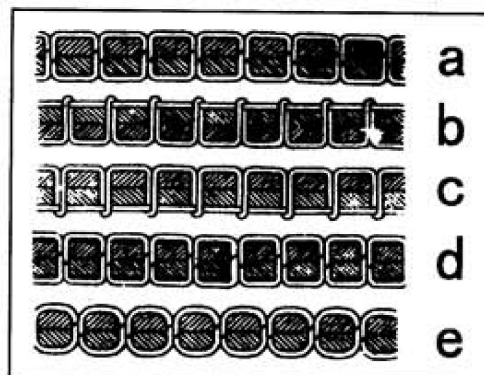
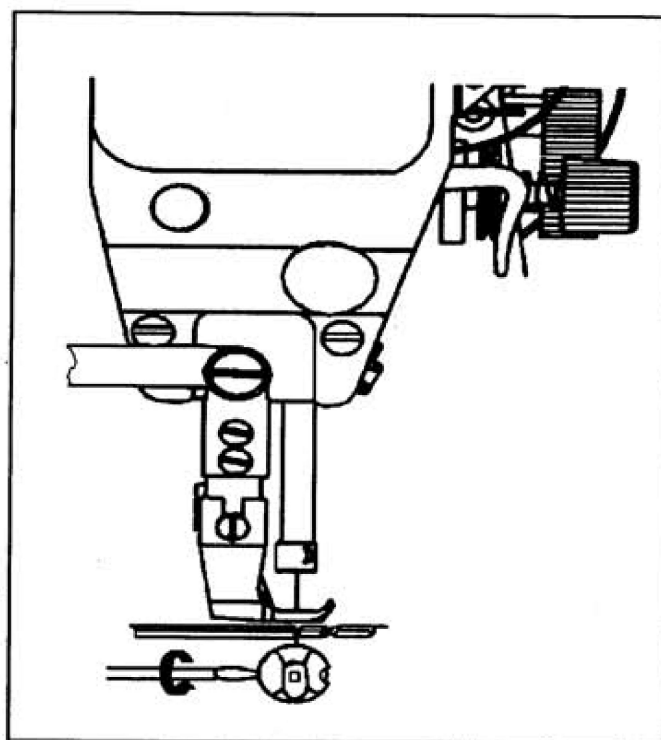

Fig. 15
Fig. 16
15. ADJUST THREAD GUIDE AND THREAD TENSION (Fig.15,16)
Fig15 shows different stitch forms. Normal stitch form should be as shown in Fig.15 (a). When abnormal stitches cause puckering and thread break-age, the tension of needle thread and bobbin thread must be adjusted accordingly.
- 1) In case needle thread tension is too strong or bobbin thread tension is too weak, as shown in Fig.15 (b), turn the thumb nut counterclockwise to decrease the needle thread tension, or tighten the tension spring regulating screw of bobbin case to increase the bobbin thread tension (See Fig.16)
- 2) In case needle thread tension is too weak or bobbin thread tension is too strong, as shown in Fig.15 (c), turn the thumb nut clockwise to increase the needle thread tension, or loosen the tension spring regulating screw of bobbin case to decrease the bobbin thread tension.
- 3) In case of the stitch forms as shown in Fig.15 (d) and (e), adjustments can be made with reference to the above means.